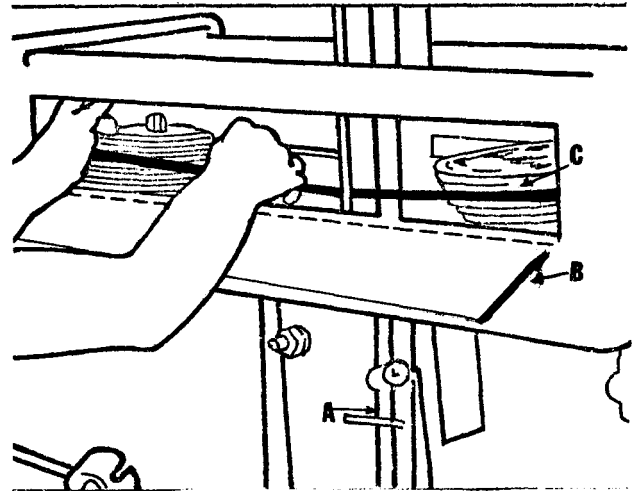
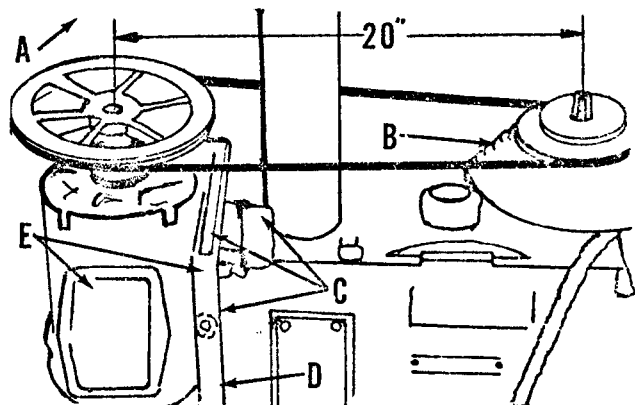

Fig 3 - Changing Speeds
Fig 6 - Adjusting Belt Tension
2. Loosen wing nut located on the opposite end of the plate (A) Fig. 3. (This wing nut is shown at (D) Fig. 6). The motor and motor plate can then be tilted forward, as shown in Fig. 3, releasing the belt tension.
3. Open the door (B) Fig. 3, tilt the motor pulley (C) forward, and move the belt to the desired steps on the motor and spindle pulleys, as shown in Fig. 3.
4. After the belt is positioned on the pulleys, close the door (B) Fig. 3, and tighten the wing nut located on the opposite end of the plate (A) to keep the motor pulley, motor and motor plate in the vertical position.
3. Disengage the return spring from the screw (D) Fig. 6, in the pinion shaft, and remove the return spring and housing from the pinion shaft.
The correct belt tension is determined by the center to center distance of the motor pulley (A) and the spindle pulley (B) Fig. 6. If it ever becomes necessary to adjust belt tension, proceed as follows:
2. Loosen the three screws (C) Fig. 6, and while making sure the motor pulley (A) is in parallel alignment with the spindle pulley (B), move the motor and motor plate (E) in or out until the center to center distance between the motor and spindle pulley is 20", as shown in Fig. 6. NOTE: For clarity Fig. 6 is shown with the belt guard removed.